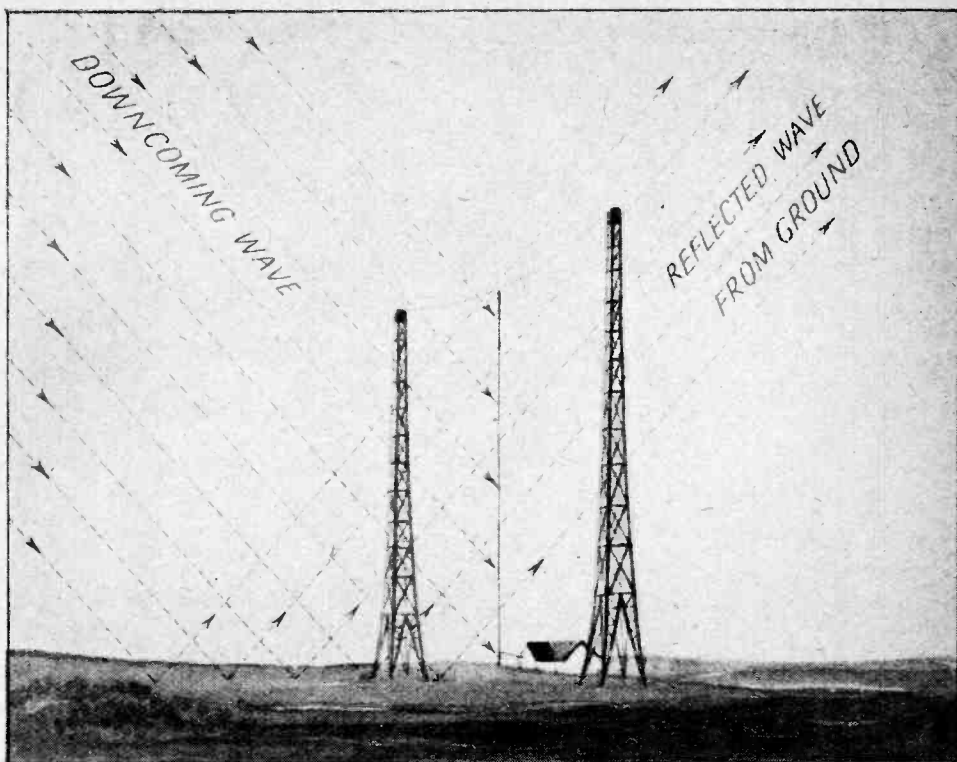

Fig. 2.—Due to the reflected wave from the ground best results in practice are obtained with a vertical aerial.
But in the second case we have to consider also the reflected wave from the ground, and it is easy to show that in this case the maximum signal is always obtained when the aerial is in the vertical position, no matter what may be the angle of descent of the wave. An examination of Fig. 2 shows that the horizontal components of the electric forces of the two waves cancel each other, so that the combined effect of the two waves is to produce a vertical electric force. We can thus
Fig. 2.—One of the high-frequency units removed from the copper box. The base is of sheet tin. On the left is the balancing condenser mounted on a piece of ebonite, while at the back is the H.F. transformer. The valve-holder is screwed to the two brass straps which hold the two 1-mfd. by-pass condensers in position. All the wiring shown is done before the unit is placed in the box.
Fig. 4.—Construction of the base of the H.F. transformer. The two upright pieces are of ebonite, and the base is of wood. This is screwed, as shown, to the sheet tin. This drawing should be examined in conjunction with Figs. 2 and 3.
Fig. 5.—(A) Drawing showing the arrangement of the parts for the first and second sections. Fig. 2 is a photograph of the second section. (B) The detector valve stage with its high-frequency transformer. A grid condenser and leak, C7, R1, and a by-pass condenser, C9, are included in this section.